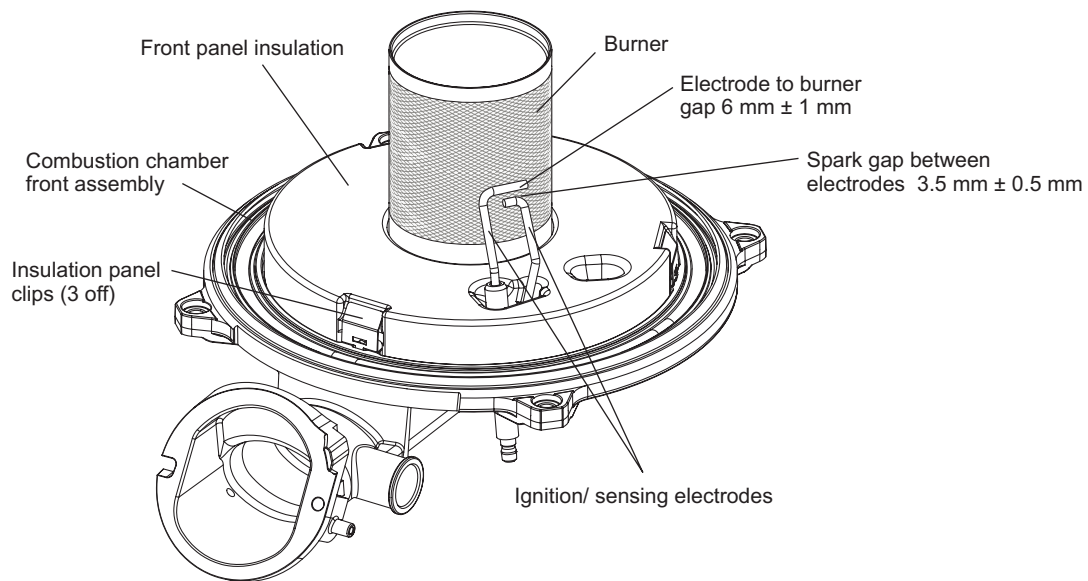

Fig. 6.5
### 6.3 PREPARE FOR SERVICING - Fig. 6.5
2. Open the three spring clips (see Fig. 6.5) and carefully lift off the insulation panel to gain access to the burner fixings. It will be necessary to remove the electrode assembly first as described in Section 7.3.